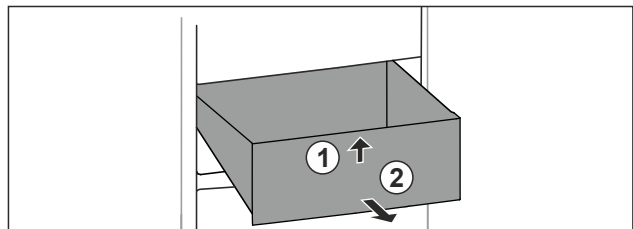

Fig. 28
- Lift up drawer at the front. Fig. 28 (1)
- Remove drawer to the front. Fig. 28 (2)